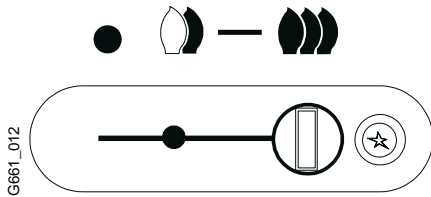

Fig. 7
- f) Move the control slider fully to the right for maximum output, see fig. 7. Fully open the hot water tap. The main burner should light.